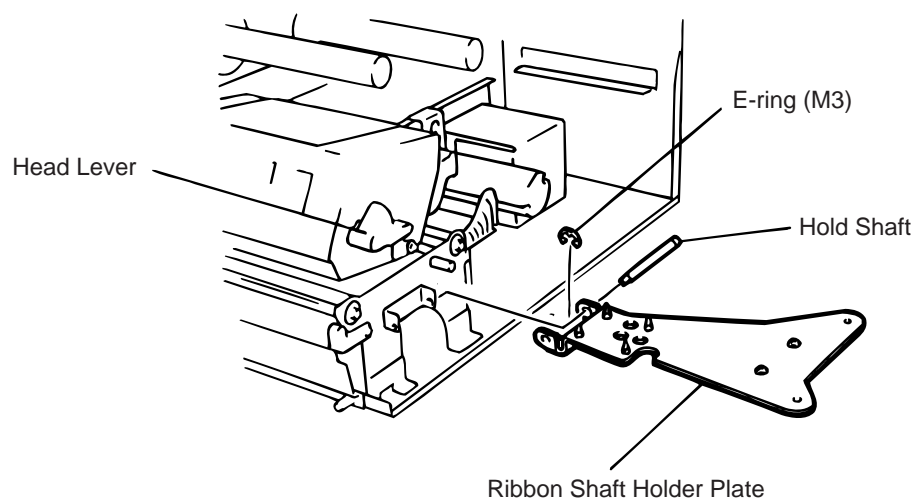

Fig. 2-17
- 1) Disconnect the connector for the strip sensor (LED) to remove right plate ass'y. (See Figs. 2-17 and 2-18.)